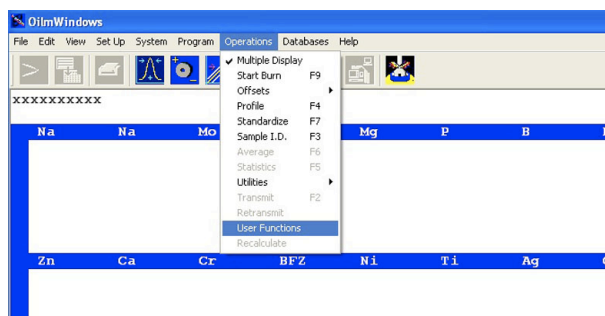

Figure 4-2, Selection of User Function Menu
2. Reopen OilMWindows by selecting from the Start menu or the shortcut on the desktop. After the communications are up select Operations/User Functions menu, Figure 4-2.